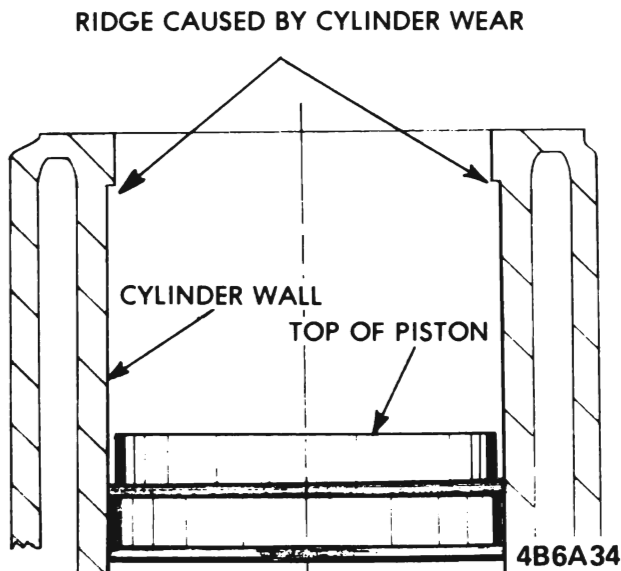

Figure 6A-83 - Ridge Formed by Rings at Top of Travel
2. Examine the cylinder bores above the ring travel. If bores are worn so that a shoulder or ridge exists at the top of the cylinder, remove the ridges with a ridge reamer to avoid damaging rings or cracking ring lands in pistons during removal. See Figure 6A-83.